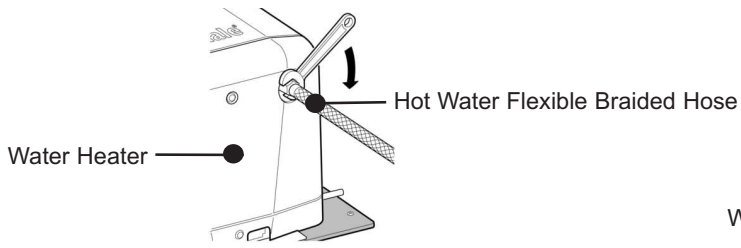

Fig. 25 Connect Braided Hose
Step 13 Connect Hot Water Supply (see Figs. 25 & 26)